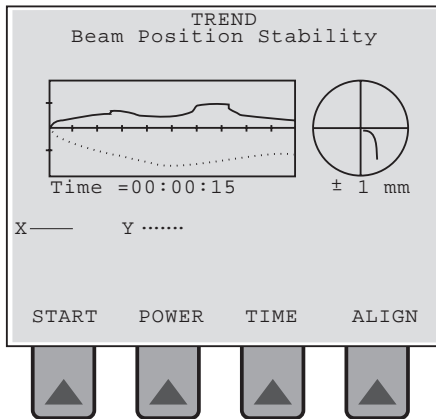

Figure 11. Beam Position Complete - Quadrant Thermal Detector Head CW
**START** - Starts data collection. At the end of the selected duration, the data collection screen appears (see Figure 11). Pressing Start clears the data and begins a new Position Trend run. (If required, the Time can be changed before beginning a new Position Trend run.)